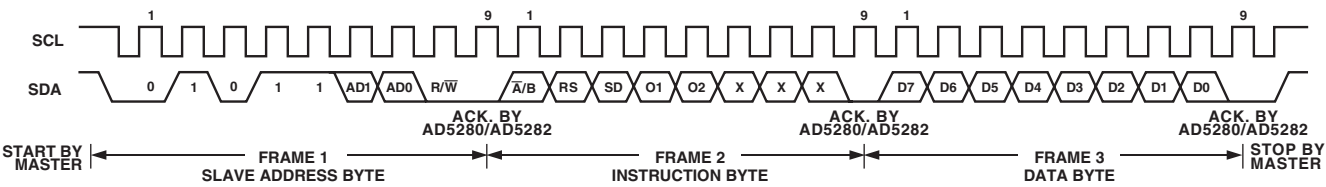
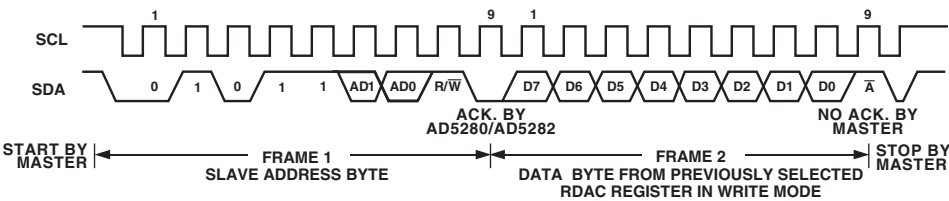

Figure 2. Writing to the RDAC Register
Figure 3. Reading Data from a Previously Selected RDAC Register in Write Mode
Referring to Figures 2 and 3, the first byte of AD5280/AD5282 is a Slave Address Byte. It has a 7-bit slave address and an $R/\overline{W}$ bit. The 5 MSBs are 01011 and the following two bits are determined by the state of the AD0 and AD1 pins of the device. AD0 and AD1 allow the user to place up to four of the I²C compatible devices on one bus.
1. The master initiates data transfer by establishing a START condition, which is when a high-to-low transition on the SDA line occurs while SCL is high (see Figure 2). The following byte is the Slave Address Byte which consists of the 7-bit slave address followed by an $R/\overline{W}$ bit (this bit determines whether data will be read from or written to the slave device).
The following two bits are O1 and O2. They are extra programmable logic outputs that can be used to drive other digital loads, logic gates, LED drivers, analog switches, and so on. The three LSBs are Don't Care (see Figure 2).
3. After acknowledging the Instruction Byte, the last byte in Write Mode is the Data Byte. Data is transmitted over the serial bus in sequences of nine clock pulses (eight data bits followed by an Acknowledge bit). The transitions on the SDA line must occur during the low period of SCL and remain stable during the high period of SCL (see Figure 2).
4. In the Read Mode, the Data Byte follows immediately after the acknowledgment of the Slave Address Byte. Data is transmitted over the serial bus in sequences of nine clock pulses (a slight difference with the Write Mode, where there are eight data bits followed by an Acknowledge bit). Similarly, the transitions on the SDA line must occur during the low period of SCL and remain stable during the high period of SCL (see Figure 3).
5. When all data bits have been read or written, a Stop condition is established by the master. A Stop condition is defined as a low-to-high transition on the SDA line while SCL is high. In Write Mode, the master will pull the SDA line high during the tenth clock pulse to establish a Stop condition, (see Figure 2). In Read Mode, the master will issue a No Acknowledge for the ninth clock pulse (i.e., the SDA line remains high). The master will then bring the SDA line low before the tenth clock pulse, which goes high to establish a Stop condition (see Figure 3).
AD5280/AD5282 allows the user to read back the RDAC values in the Read Mode. However, for the AD5282 dual-channel device, the channel of interest is the one that is previously selected in the Write Mode. In the case where users need to read the RDAC values of both channels in AD5282, they can program the first subaddress in Write Mode and then change to Read Mode to read the first channel value. After that, they can change back to Write Mode with the second subaddress and finally read the second channel value in Read Mode again. Note that it is not necessary for users to issue the Frame 3 data byte in Write Mode for subsequent readback operation. Users should refer to Figures 2 and 3 for the programming format.
AD5280/AD5282 features additional programmable logic outputs, O_1 and O_2 , which can be used to drive a digital load, analog switches, and logic gates. O_1 and O_2 default to Logic 0. The logic states of O_1 and O_2 can be programmed in Frame 2 under the Write Mode (see Figure 2). These logic outputs have adequate current driving capability to sink/source milliamperes of load.